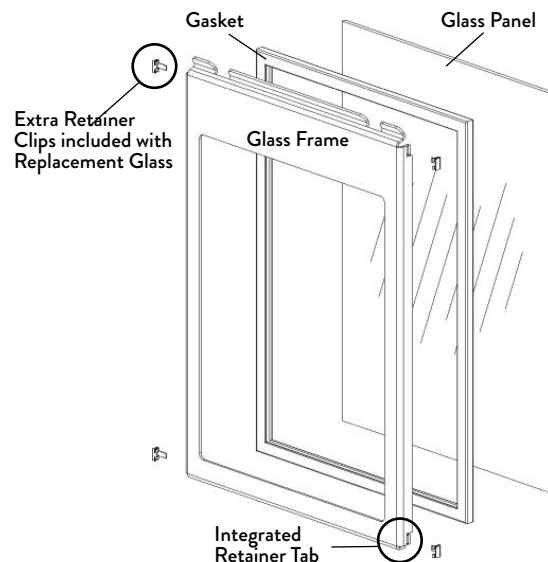

Figure 16.1.
4. The glass panel is held in place by four tabs at the frame corners. Use a screwdriver or small pliers to pry these up just enough to release the glass panel. See fig. 16.1, page 29.